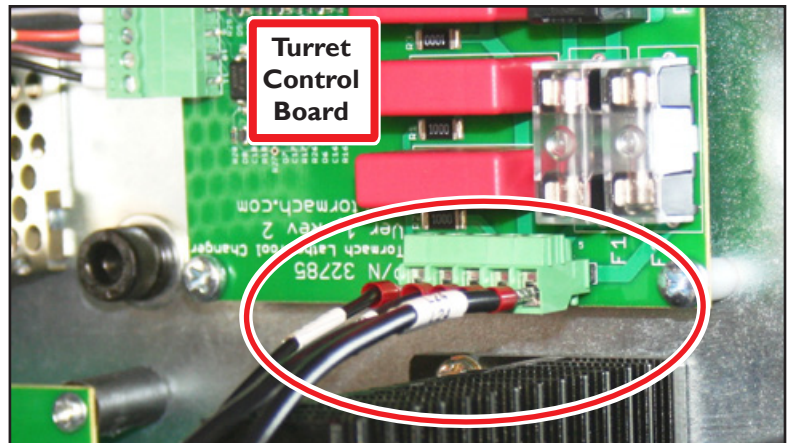

Figure 20
23. Reference **Figure 20** when making the four Turret Control Board connections.
**IMPORTANT:** Do not connect the items outlined in **Figure 20** at this time. This image shown is for reference purposes only. The detailed connection procedure is explained in the following steps.
24. Plug the Encoder Connector Block into the Turret Control Board as shown in **Figure 20**.
**IMPORTANT:** Proper alignment/orientation of Power Connector Block into the Turret Control Board is crucial to avoid damage (see **Figure 20**).